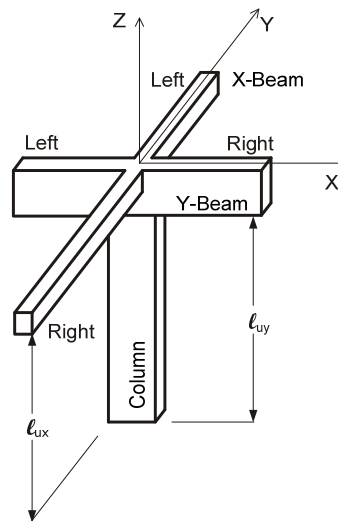

Figure 2-5 Slenderness Input Convention
5. The convention for the slenderness input of beam and column dimensions and their orientation is presented in Figure 2-5. Beams above the columns are shown. Same convention applies to beam below the column.